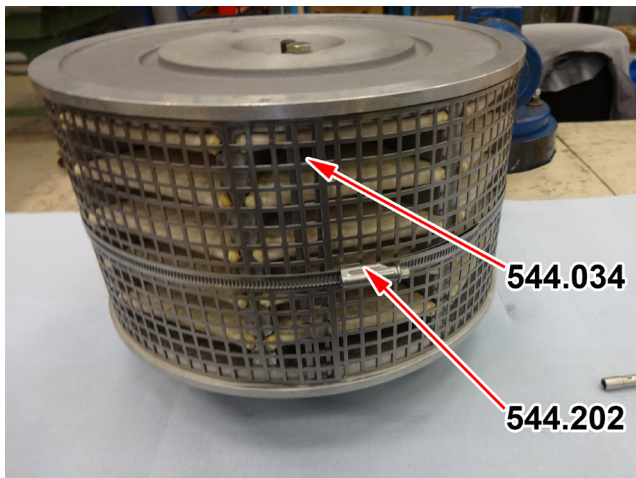

Figure 3 Perforated plate and tightened hose clamp
2. Remove the silencer (544.000, work card [500.12] for NR12/S and [500.32] for TCR12) and place it flat as shown (see figure 3)
4. Place a third hose clamp (544.202) in the middle over a perforated plate and tighten the hose clamp carefully (see figure 3)